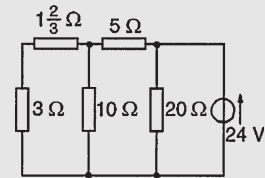

Figure 13.60
**Problem 16.** Use Norton's theorem to determine the current flowing in the  $3 \Omega$  resistance of the network shown in Fig. 13.60. The voltage source has negligible internal resistance.